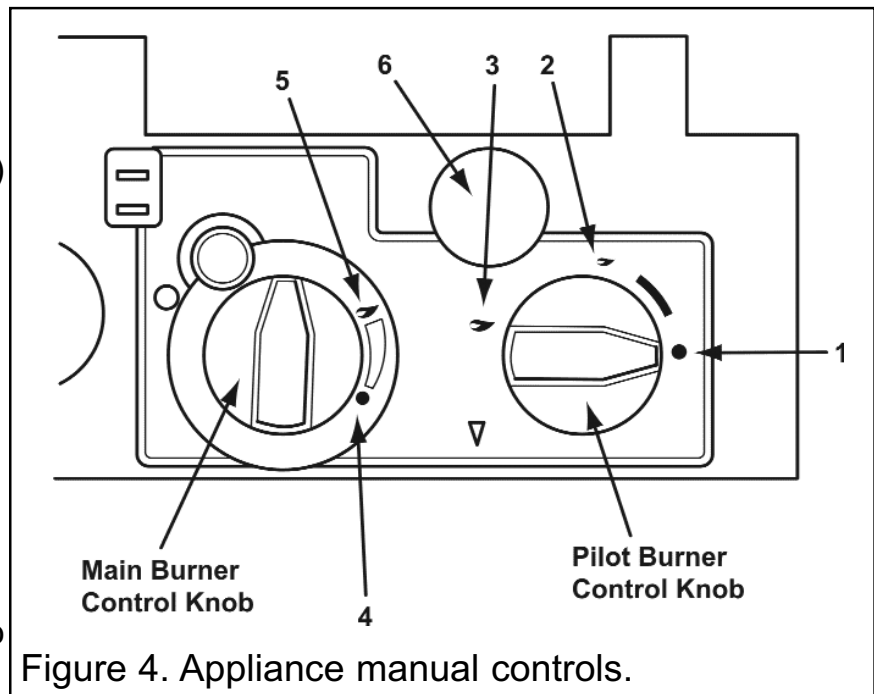
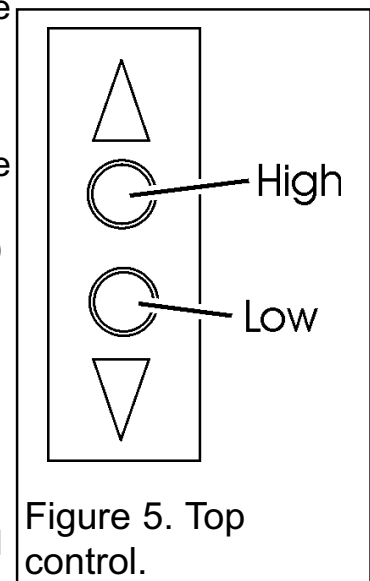

Figure 4. Appliance manual controls.
Figure 5. Top control.
1. Ensure that the pilot burner control knob is in the OFF position (Number 1 in figure 4).
2. Depress the pilot burner control knob and turn anti-clockwise to the ignition position (Number 2 in figure 4) to activate the piezo ignition system. A 'click' will be heard and the pilot should light. Observe if it is alight by looking through the slots to the left hand end of the front ceramic fuel effect. If the pilot does not light immediately, repeat the above procedure, keeping the knob depressed for several seconds in order to purge any air from the system.
1. Once the pilot light is established, light the main burner by turning the pilot burner control knob anti-clockwise to the "main burner on" position (Number 3 in figure 4), and by then turning the main burner control knob to the high position (Number 5 in figure 4).
2. Check the full range of heat settings by turning the main burner control knob slowly between the high position and the low position (Number 4 in figure 4).
Turn the main burner control knob fully clockwise. Alternatively turn the pilot burner control knob clockwise to the ignition position (Number 2 in figure 4).
Rotate the pilot/burner control knob clockwise to position 1, as shown in figure 4.
1. Keep the pilot burner at the "main burner on" position. Check the full range of main burner heat settings using the Top Control. In order to vary the flame effect between High and Low positions, press, and keep depressed, either the High button, or the Low button as appropriate (See figure 5).
3. Turn the fire off by rotating the pilot burner control knob to the OFF position (Number 1 in figure 4).
1. Allow the appliance to warm up, (for at least fifteen minutes) in the fully aerated position, with the aeration control lever pushed in to the locked position (See figure 5, & number 6 in figure 4).